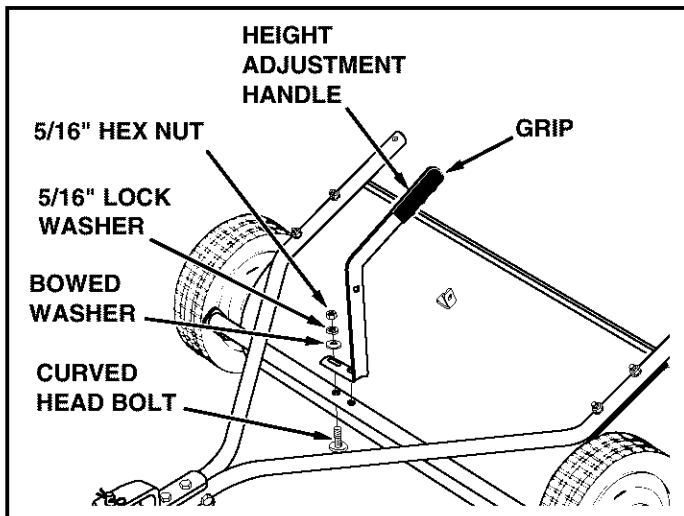

FIGURE 6
- Assemble the height adjustment handle to the height adjustment tube using two curved head bolts, bowed washers, 5/16" lock washers and 5/16" hex nuts. **Do not tighten yet.** See figure 6.
- Assemble the grip onto the height adjustment handle. See figure 6.